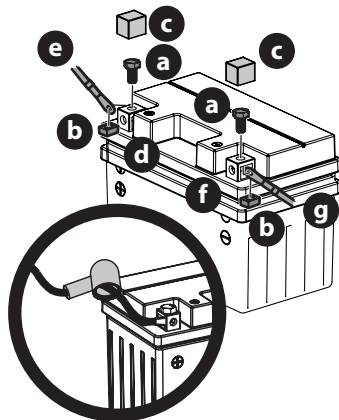

Figure 18
1. Remove the hex screws (a) and square nuts (b) located either on the end of the wiring harness or in the bag with this manual. Retain the hardware for later instructions (Figure 18).
2. Remove the plastic cover (c), if present, from the positive battery terminal (d) and attach the red cable (e) to the positive battery terminal (d) with one of the hex screws (a) and square nuts (b), from Step 1. Use a Philips screw driver (Figure 18 on page 13).
3. Position the red rubber boot over the positive battery terminal to help protect it from corrosion (inset in Figure 18 on page 13).
4. Remove the plastic cover (c), if present, from the negative battery terminal (f) and attach the black cable (g) to the negative battery terminal (f) with the remaining hex screw (a) and square nut (b) (Figure 18 on page 13).